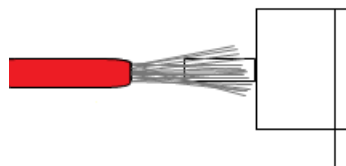

Figure 2.12: Maximum Wire Contact
3. Spread wires of each lead for maximum contact as shown in Figure 2.12. Put the red wire to "Reference Point" and the black wire to "GND."